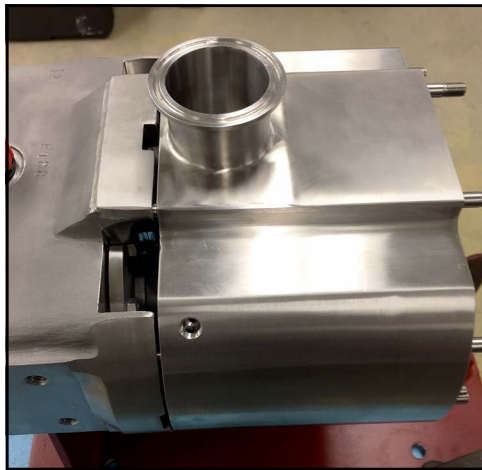

Figure 91 - Pump body installed
6. Figure 91 shows the pump body installed.